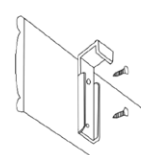

Figure 3
- Screw the valance clips (part C) to the back of the valance supplied, flush with the top of the valance (Figure 3)
- Insert headrail into mounting brackets (part A) (Figure 3) and lock hinged flaps down to hold headrail in position